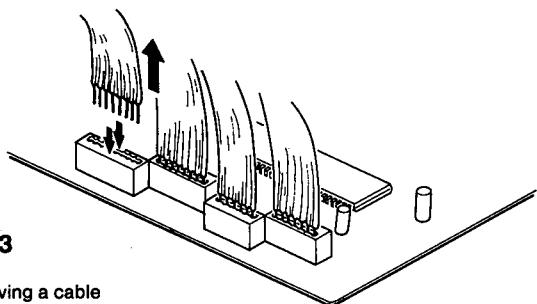

Fig. 3
- (1) Remove the top cover.
- (2) Remove four screws which fix the front panel on the chassis.
- (3) Pull the panel forward pushing sides outside.
- (4) Remove four cables from the panel to the main pc board (CN307 - CN310). (fig. 3, 4)